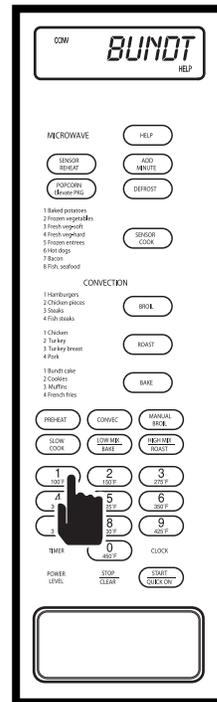

Figure 3-104.
2. Select the food type. The four choices are listed to the left of the BAKE key. Press the number 1 key, “BUNDT - CRKE - USE - BUNDT - PAN - ON - TURN - TABLE” will flash on display (See Figure 3-104).